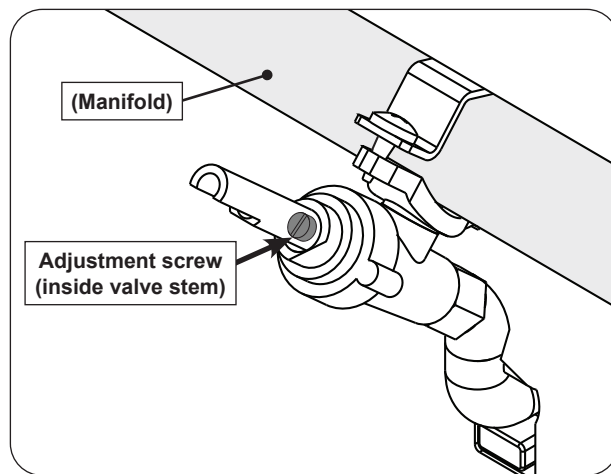

Fig. 43-1 Valve adjustment screw location
3. Locate the FLATHEAD adjustment screw found inside the valve stem (see Fig. 43-1).